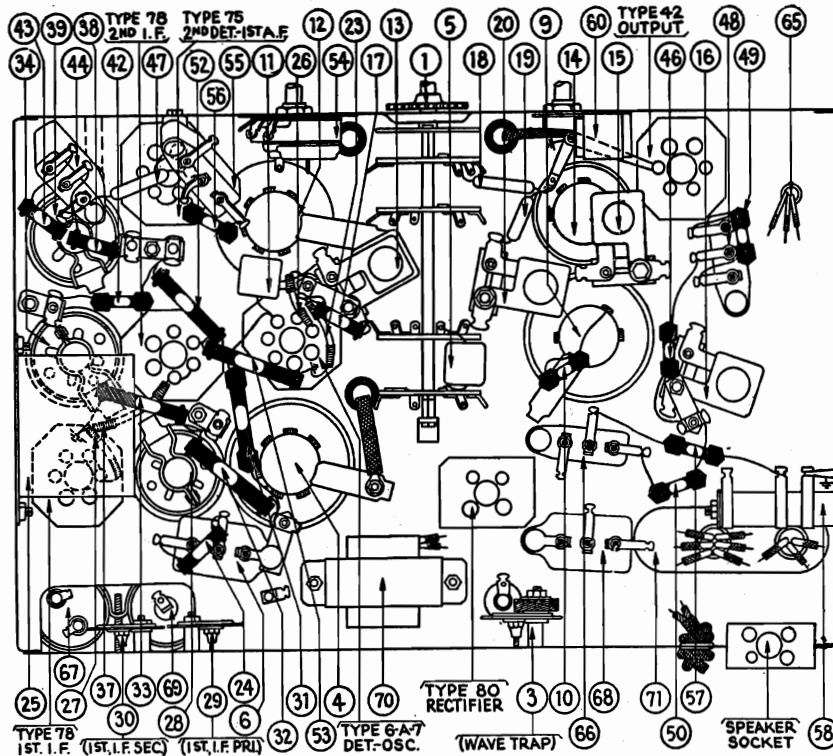

FIG. 4—Bottom View of Chassis, Showing Parts, and Position of Compensating Condensers Located,—and Reached,—from Below Chassis.
The output meter is connected to the primary terminals of the Output Transformer. Set the signal generator of the Model 048 at 460 K.C.,—the intermediate frequency of Model 44,—and adjust each of the I.F. compensating condensers in turn, to give maximum response in the output of the receiver. The location of the I.F. compensating condensers is shown in Figure 2 and Figure 4. Figure 2 shows the position of the compensating condensers of the 2nd, I.F. Transformer (34) and of the 3rd, I.F. Transformer (39). Each of these transformers has its dual compensating condenser mounted at its top, and accessible through a hole in the top of the coil shield. In the dual compensators, the Primary circuit is adjusted by the SCREW; the Secondary circuit is adjusted by the hex-head nut. The adjustment of the primary and secondary circuits of the 1st, I.F. Transformer (25) is made by means of two single compensating condensers (26) and (27) mounted underneath, and at the rear of the chassis and accessible from the rear. They are shown in Figures 2 and 4.
Turn the Wave-Band Switch to Range 2, and adjust the Station Selector to 3.6 M.C. The "Antenna" connection between the Signal Generator and the receiver chassis must be removed for this adjustment. The output of the Signal Generator will be too great, otherwise. Adjust the compensating condenser (23) to give maximum response in the output circuit. This compensating condenser is located underneath the chassis and is not accessible from above. See Figure 4.
The Model 048 Set Tester is used again. Turn the Wave-Band Switch to Range 2, Station Selector to 1.5 M.C. Set the Signal Generator (Model 048) at 1500 K.C. (1.5 M.C.). The "Antenna" connection between the Signal Generator and the chassis should be restored. Adjust compensating condenser (20), located underneath the chassis, (Figure 4). Adjustment is possible from the underside of the chassis.
Place the Wave-Band Switch at Range 1, and the Station Selector to 1400 K.C. Set the Signal Generator (Model 048) at 1400 K.C. Adjust the compensating condenser (19), which is located underneath the chassis. See Figure 4. This adjustment is possible from the underside of chassis.
With Wave-Band Switch at Range 1, and Station Selector at 520 K.C., set the Signal Generator of the Model 048 at 520 K.C., and adjust the compensating condenser (18), (Figure 4). This compensating condenser is mounted underneath the chassis, and is reached from below.